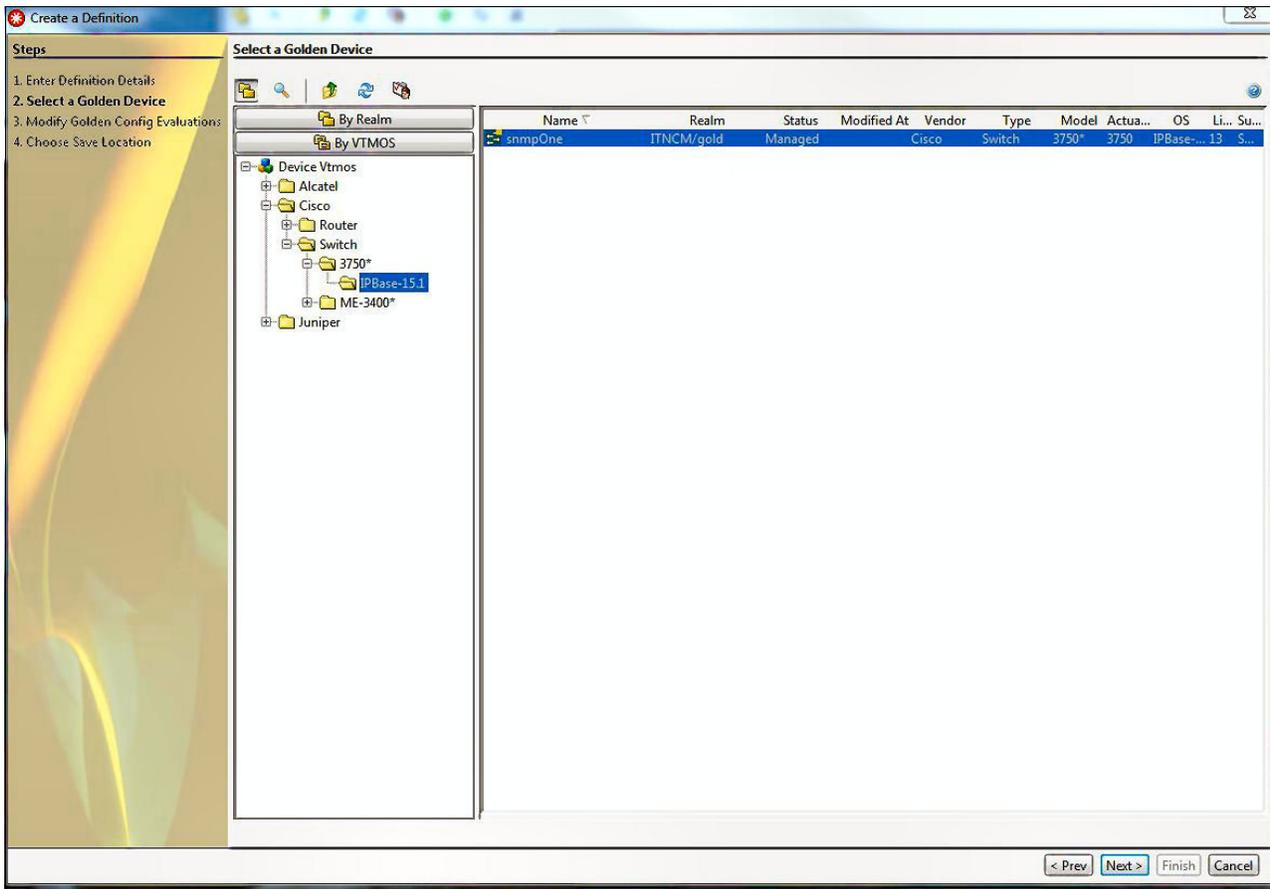

Figure 4-14 Golden Configuration selection
- In the next pane, select the designated golden configuration, snmp0ne, to use in this definition by using the By Realm or By VTmos selection panes. Then, click **Next**, as shown in Figure 4-14.